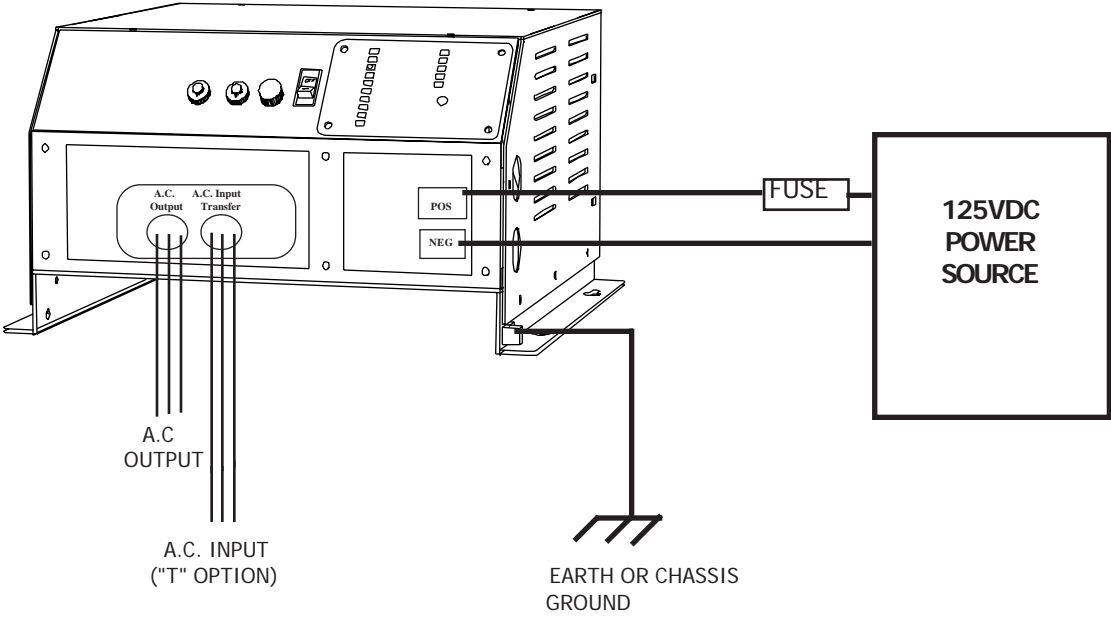

FIG. 1 INSTALLATION WIRING
3.04 Chassis Bonding Lug - FIG. 1
3.05 Battery Wiring - FIG. 1